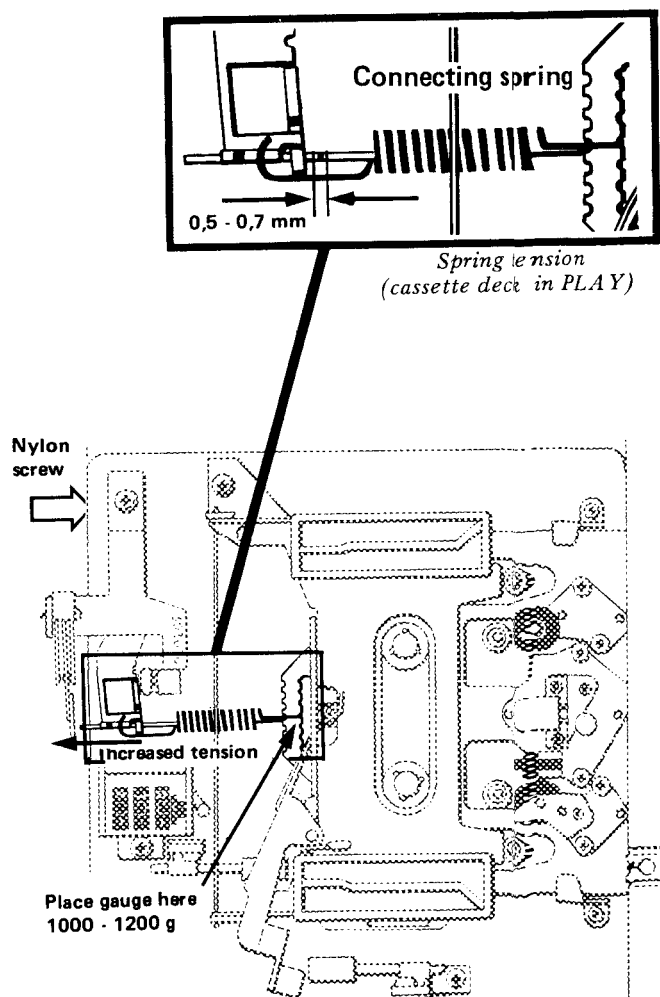

Fig. 4.24 Pinch roller pressure
2. Check that the connecting spring is stretched approximately 0.5 - 0.7 mm. The figure shows how this check is made. (The microswitches are not shown in fig. 4.24.)